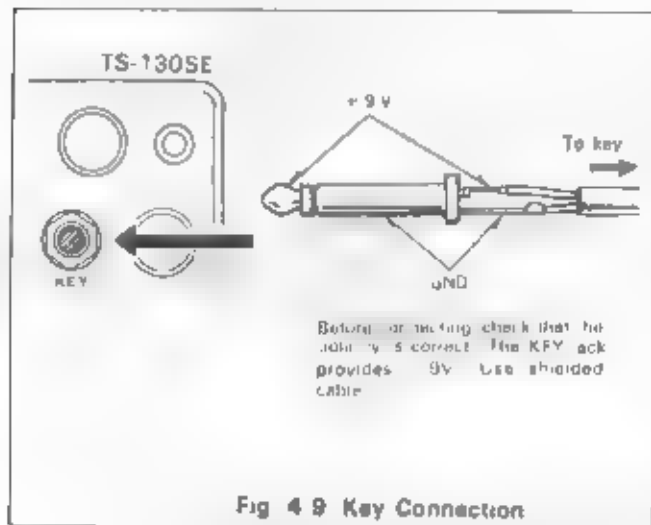

Fig. 4-9 Key Connection
4.7.3. KEY CONNECTION (Fig. 4-9)
Your key should be connected as illustrated in Fig. 4-9. When using an electronic keyer, make sure that polarity is set for positive. Always use shielded line from the key to transceiver.